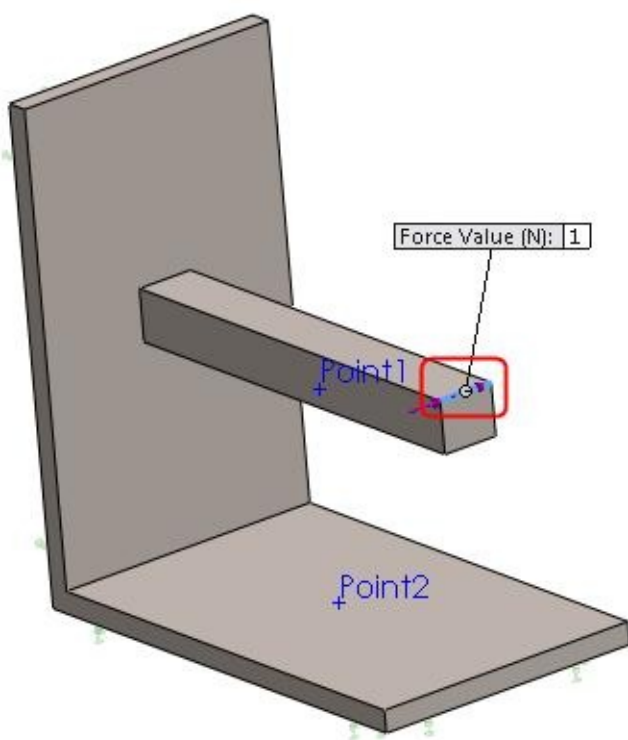

Figure-6. Edge to be selected
- Click on the edge as shown in Figure-6.